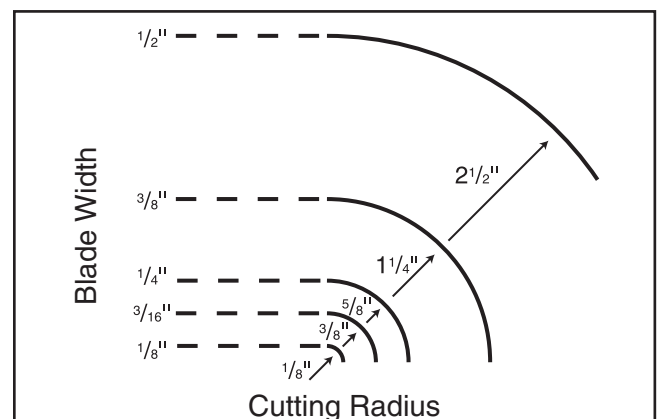

Figure 48. Recommended cutting radius per blade width.
- Curve Cutting:** Use the chart in **Figure 48** to determine the correct blade for curve cutting. Determine the smallest radius curve that will be cut on your workpiece and use the corresponding blade width.